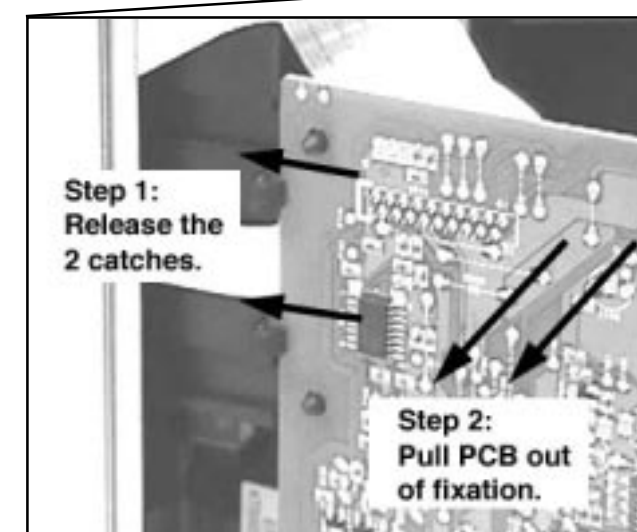
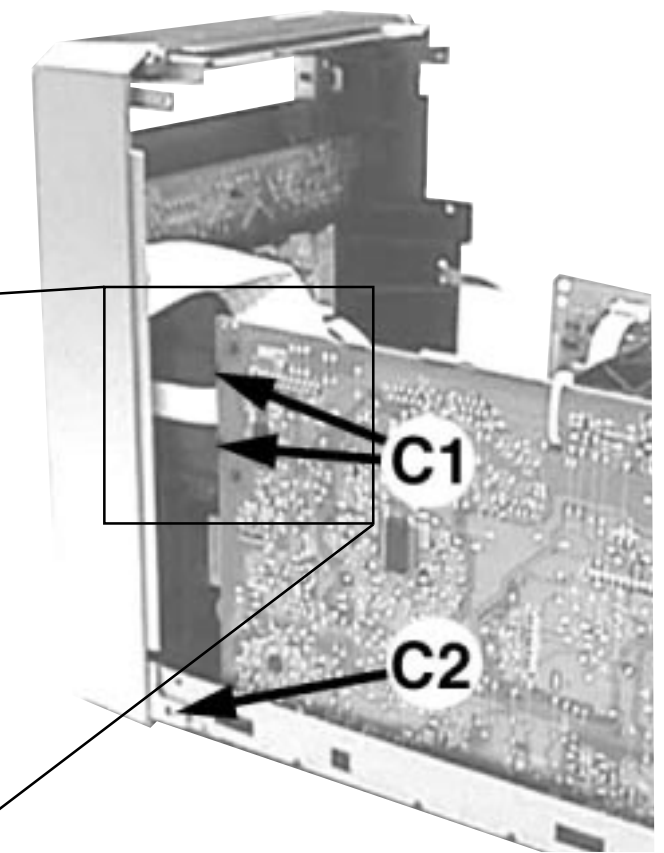

Figure 7A
Figure 7
- 2) Release the fixation of the Combi Board (pos 1102-1001) to Bracket Combi (pos 155) by releasing the 2 catches C1 (see Figure 7) and pulling the Combi Board outwards as shown in Figure 7A.
- 3) Uncatch 2 catches C2 (see Figure 7) on the left & right sides of the Cabinet Front (pos 101) and slides the Front Panel assembly out towards the front.